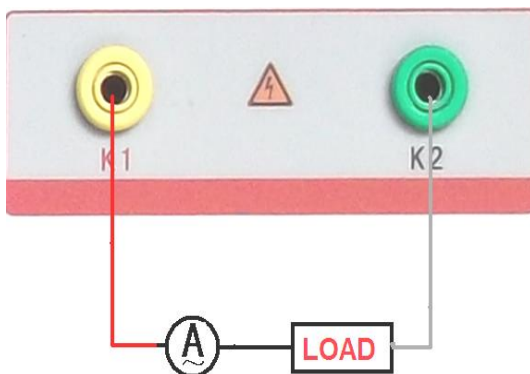

Figure 39
The connection mode of Current Calibration is as shown in Figure39, Voltage setting value is slightly higher than the Current setting value (A) * Load (Ω).After the completion of the setting, turn on the output, and select "Test" item. When the output voltage or current of the equipment reaches the setting value, it will be held for a period of time. After the completion of the test, click controllers,end of the test.